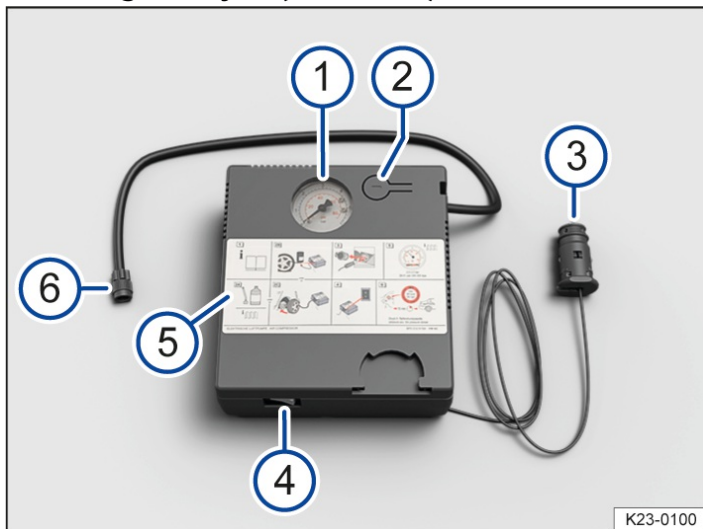

Fig. 4 Compressor in the breakdown set (illustration).
1. Screw the tyre filler hose → Fig. 4 ⑥ of the compressor tightly onto the tyre valve.
3. Insert the 12-volt plug → Fig. 4 ③ into one of the vehicle's 12-volt sockets (→ Sockets).
4. Switch on the compressor with the ON/OFF switch → Fig. 4 ④.
2. Reconnect the tyre filler hose → Fig. 2  or → Fig. 4  and read the tyre pressure on the tyre pressure display → Fig. 2  or → Fig. 4 .